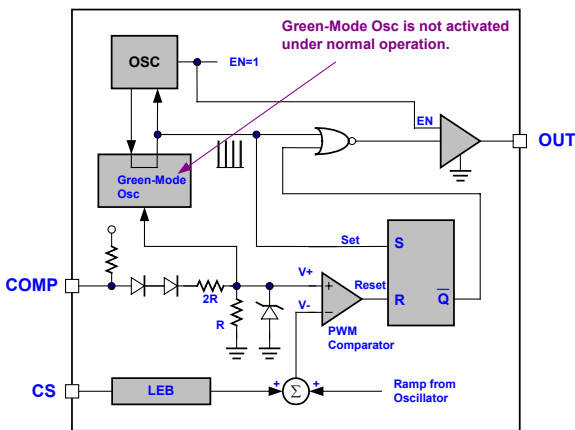

Fig. 10
What LD7551 used to implement the power-saving operation is Leadtrend Technology's own IP②. In such approach, as shown in the block diagram, 2 oscillators are implemented in LD7551. The first oscillator is to take care the normal switching frequency, which can be set by the RT pin through an external resistor. Under this operation mode, as shown in Fig. 10, the 2nd oscillation (green-mode oscillator) is not activated. Therefore, the rising-time and the falling-time of the internal ramp will be constant to achieve good stability over all temperature range. Under the normal operation, this oscillator is dominated the switching frequency.